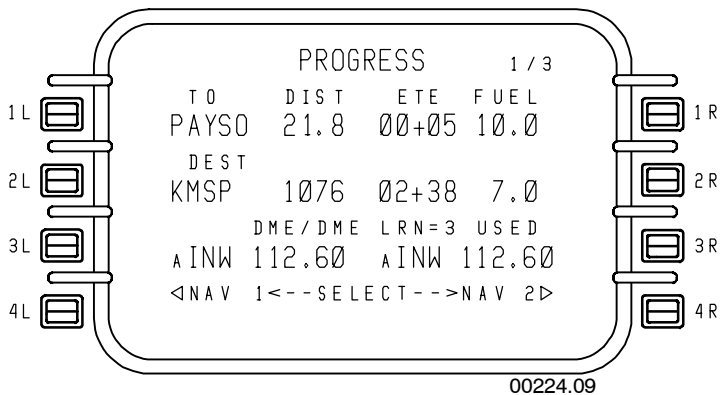

Figure 8-1
- **PROGRESS 1/3** – Figure 8-1 is used to display the progress of the flight to the TO waypoint and the destination as well as the current navigation status.